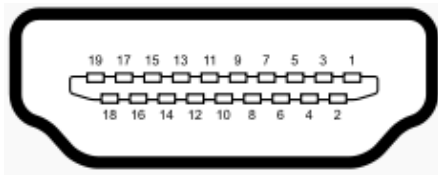

Figure 3-20: External HDMI Connector Location
- CN Location:** See **Figure 3-20**